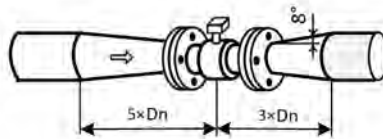

Figure 5.3 Examples of using narrowing/widening
**The use of narrowing or widening** at the inlet and outlet is allowed if the pipeline diameter does not correspond to the sensor internal diameter (DN). The taper of the transition should not exceed  $8^\circ$  (Figure 5.3).